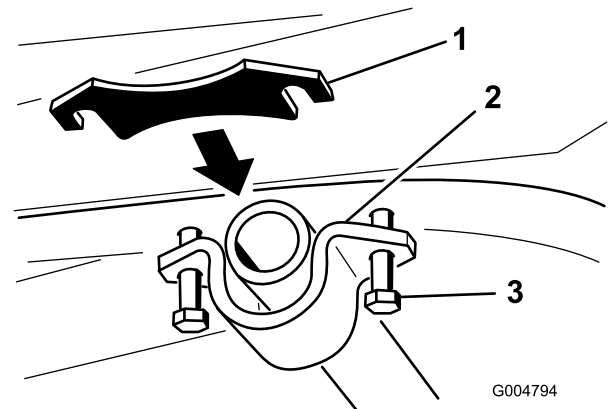

Figure 21
6. Install the necessary shim(s) as shown in Figure 21. Loosen the bolts securing the pivot tube bracket create a opening between frame and the pivot tube bracket. Install the shim(s) and tighten all fasteners.